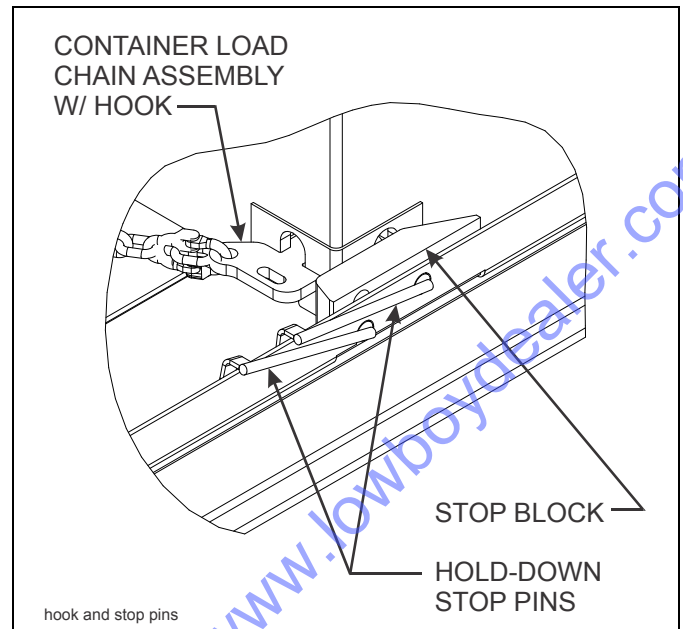

**Figure 3-3: Front Corner Castings**
14. Check the container to be loaded to see if the container front corner castings are an inch or so off the ground. If they are not, the container will have to be lifted first and blocks placed a few inches behind front of container to keep container an inch or so off the ground (**See Figure 3-3.**)